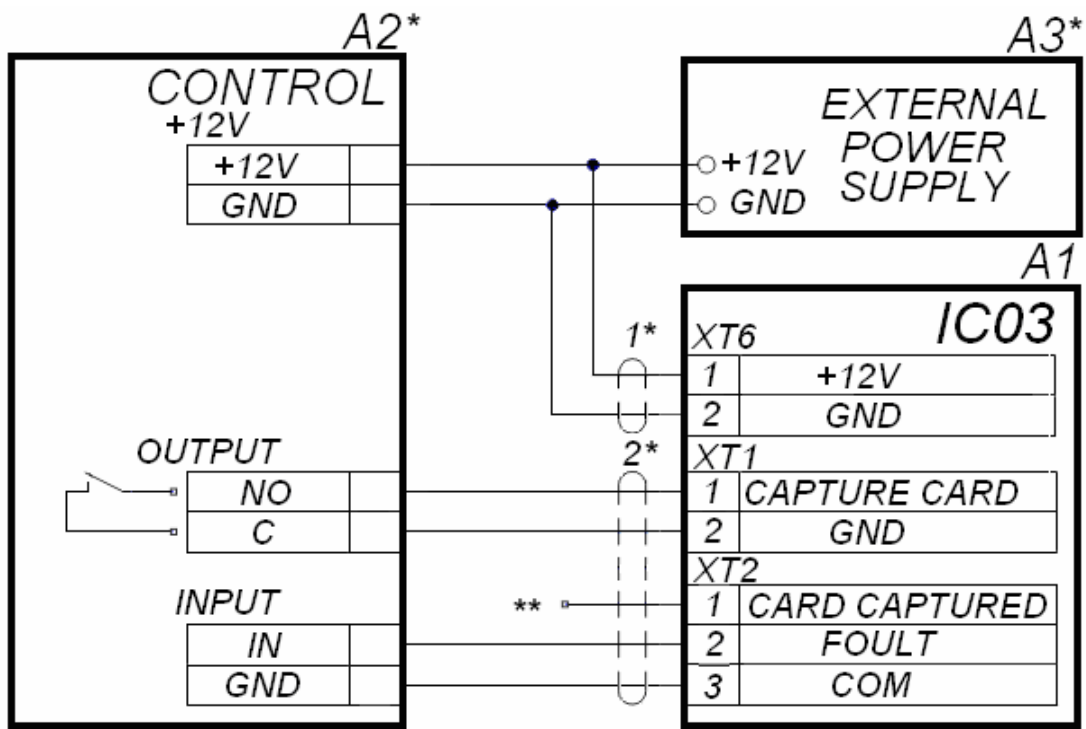

Figure 7. Wiring diagram card capture reader – ACS controller
9. Put the base (1) of the card capture reader to A zone. Match four holes in the base with holes in the mounting surface. Fix the card capture reader with anchor bolts, controlling its vertical position with a level gauge.
11. Connect the cables (10)¹, (11)² to the card capture reader control board located in its upper part from the housing (3) side. Make connection according to wiring diagram (see Figure 7). The list elements designated in scheme shown in Table 4.